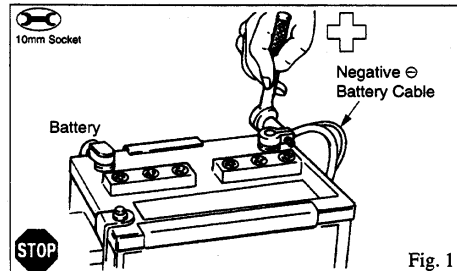

Fig. 1
(1) Remove the negative battery cable. (Fig. 1)